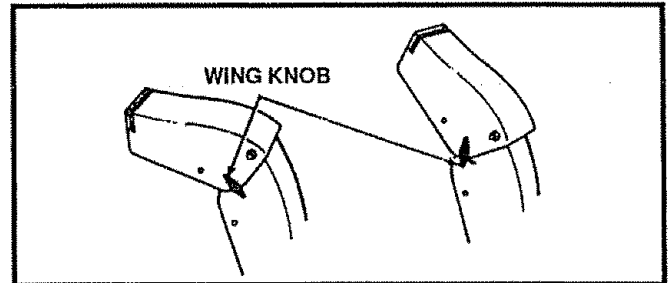

FIG. 10
- Loosen the wing knob on the chute deflector and move the deflector to set the **distance**. Move the deflector **UP** for more distance, **DOWN** for less distance. Then tighten the wing knob (Fig. 10).